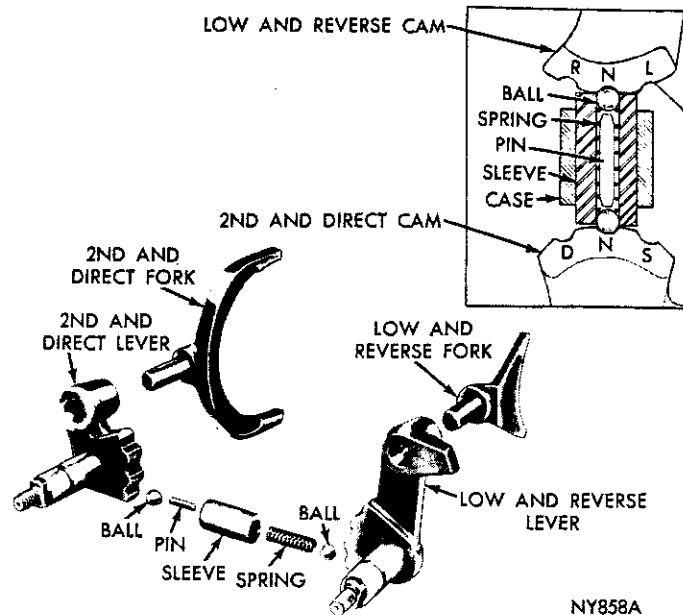

Fig. 25—A-903 Shift Forks and Levers
- (1) Remove operating levers from their respective shafts.
- (2) Drive out tapered retaining pin from either of the two lever shafts, then withdraw lever shaft from inside transmission. (The detent balls are spring loaded; as shaft is being withdrawn, the ball will drop to bottom of the case.)
- (3) Remove interlock sleeve, spring, pin and both balls from the case (Fig. 25). Drive out remaining tapered pin, then slide lever shaft out of transmission.
- (4) Using a suitable drift, drive out lever shaft oil seals.
Gearshift Mechanism (Fig. 25)
(1) Press bearing on mainshaft then select and install snap ring for minimum end play (Fig. 25).
Note that both shift forks are offset toward rear of transmission (Fig. 25).